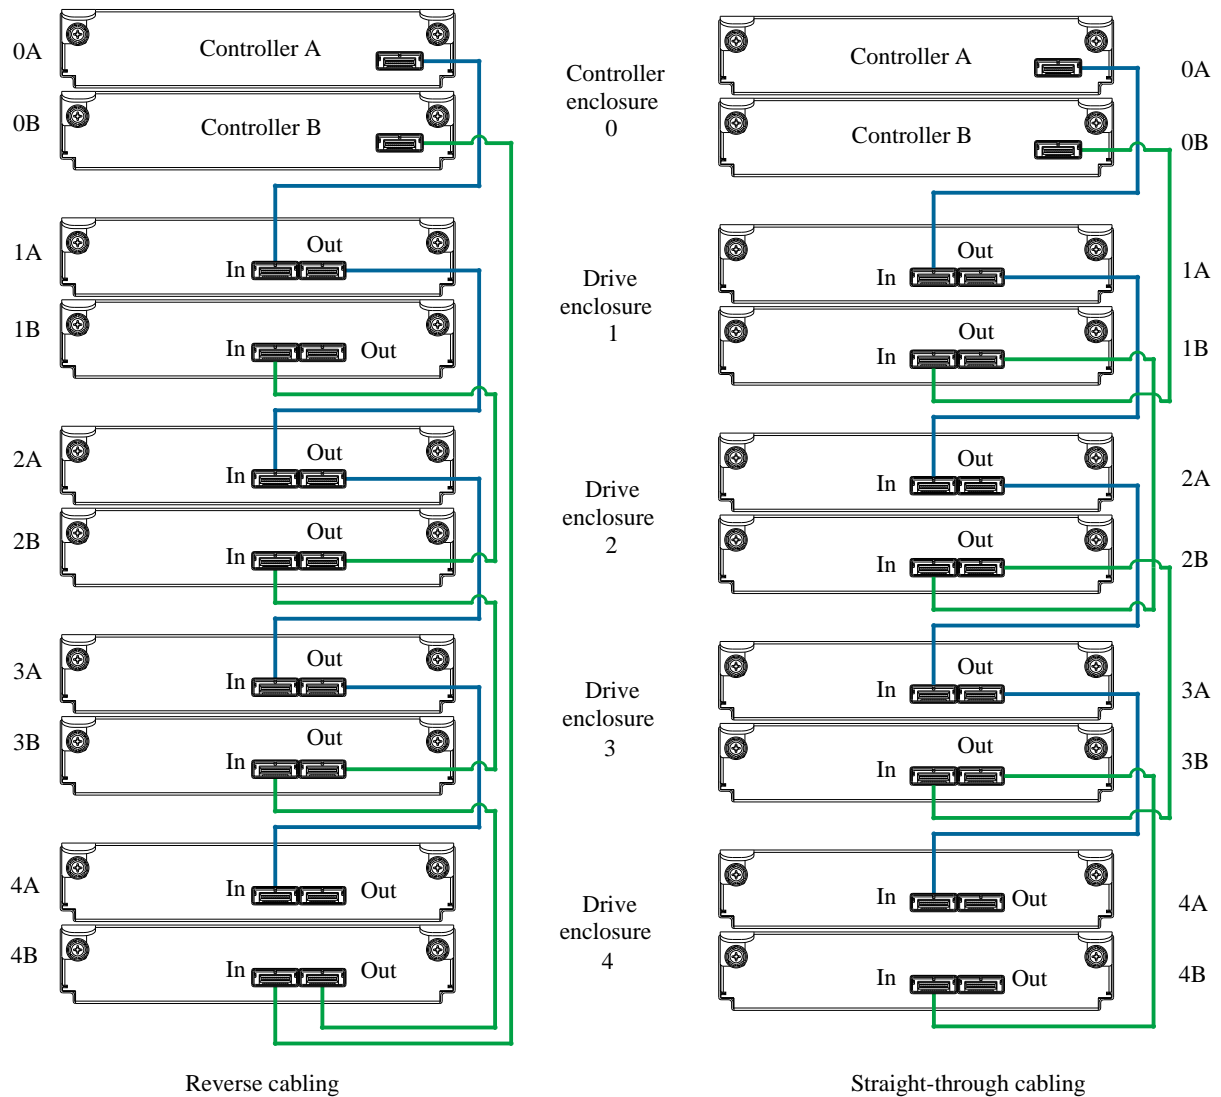

Figure 10 Fault-tolerant cabling between a dual-controller enclosure and four drive enclosures
For example, the illustration on the left in Figure 10 on page 26 shows reverse cabling, wherein controller 0A (i.e., enclosure-ID = 0; controller-ID = Able) is connected to expansion module 1A, with a chain of connections cascading down (blue). Controller 0B is connected to the lower expansion module (B) of the last drive enclosure in the chain, with connections moving in the opposite direction (green). Several cabling examples are provided on the following pages.
The 694xx Series controllers support cabling of 6 Gb SAS link-rate SFF and LFF expansion modules—in mixed model fashion—as shown in Figure 10 on page 26. The simplified rear-panel views of the 694x2, 694x2, and 694x2 are identical.
The diagrams above show dual-controller enclosures cabled to drive enclosures featuring dual-expansion modules. Cabling logic is explained in the narrative supporting Figure 10 on page 26.